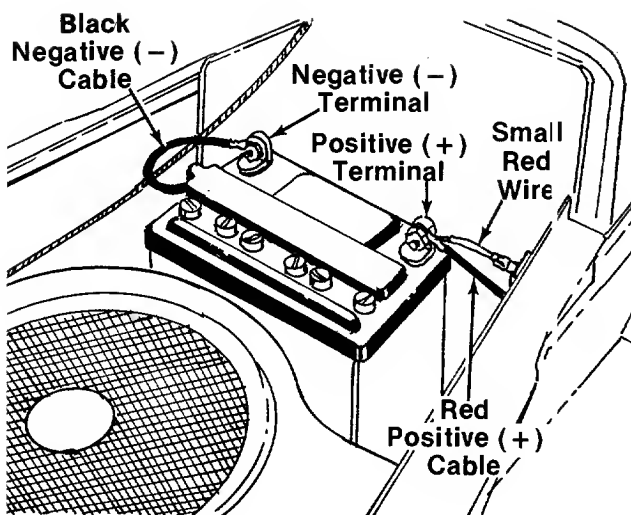

FIGURE 1.
2. Attach the positive cable (heavy red wire) and the small red wire (from the circuit breaker) to the positive battery terminal (+) with a $\frac{1}{4}$ -20 x $\frac{3}{4}$ " long bolt, lock washer and hex nut provided in the battery pack. See figure 1.